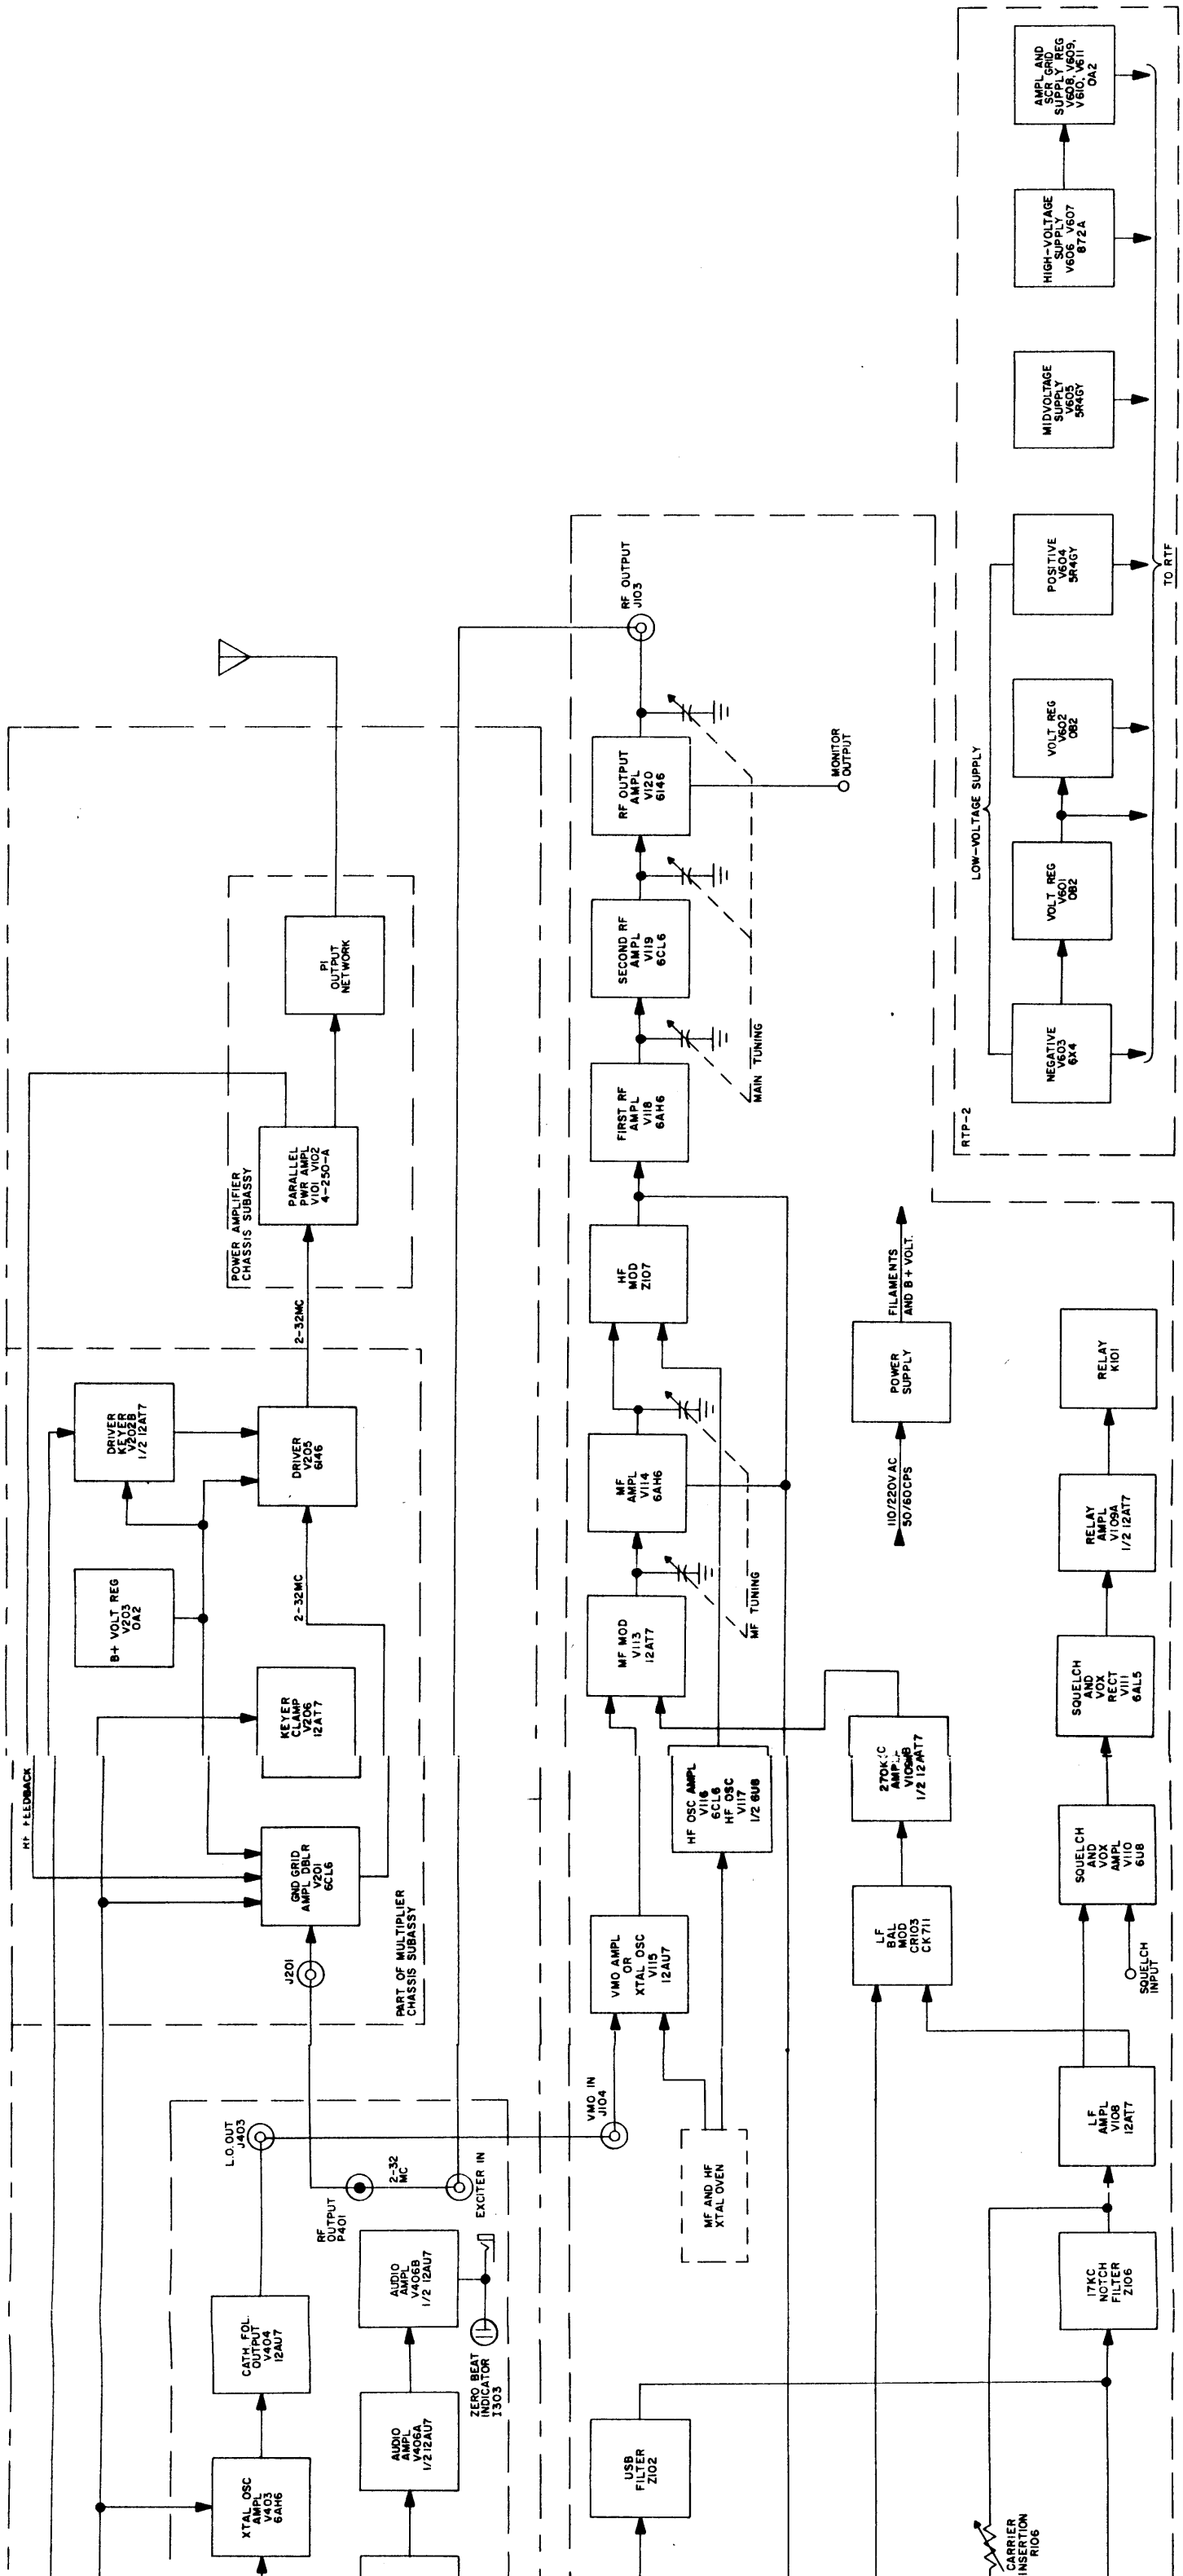
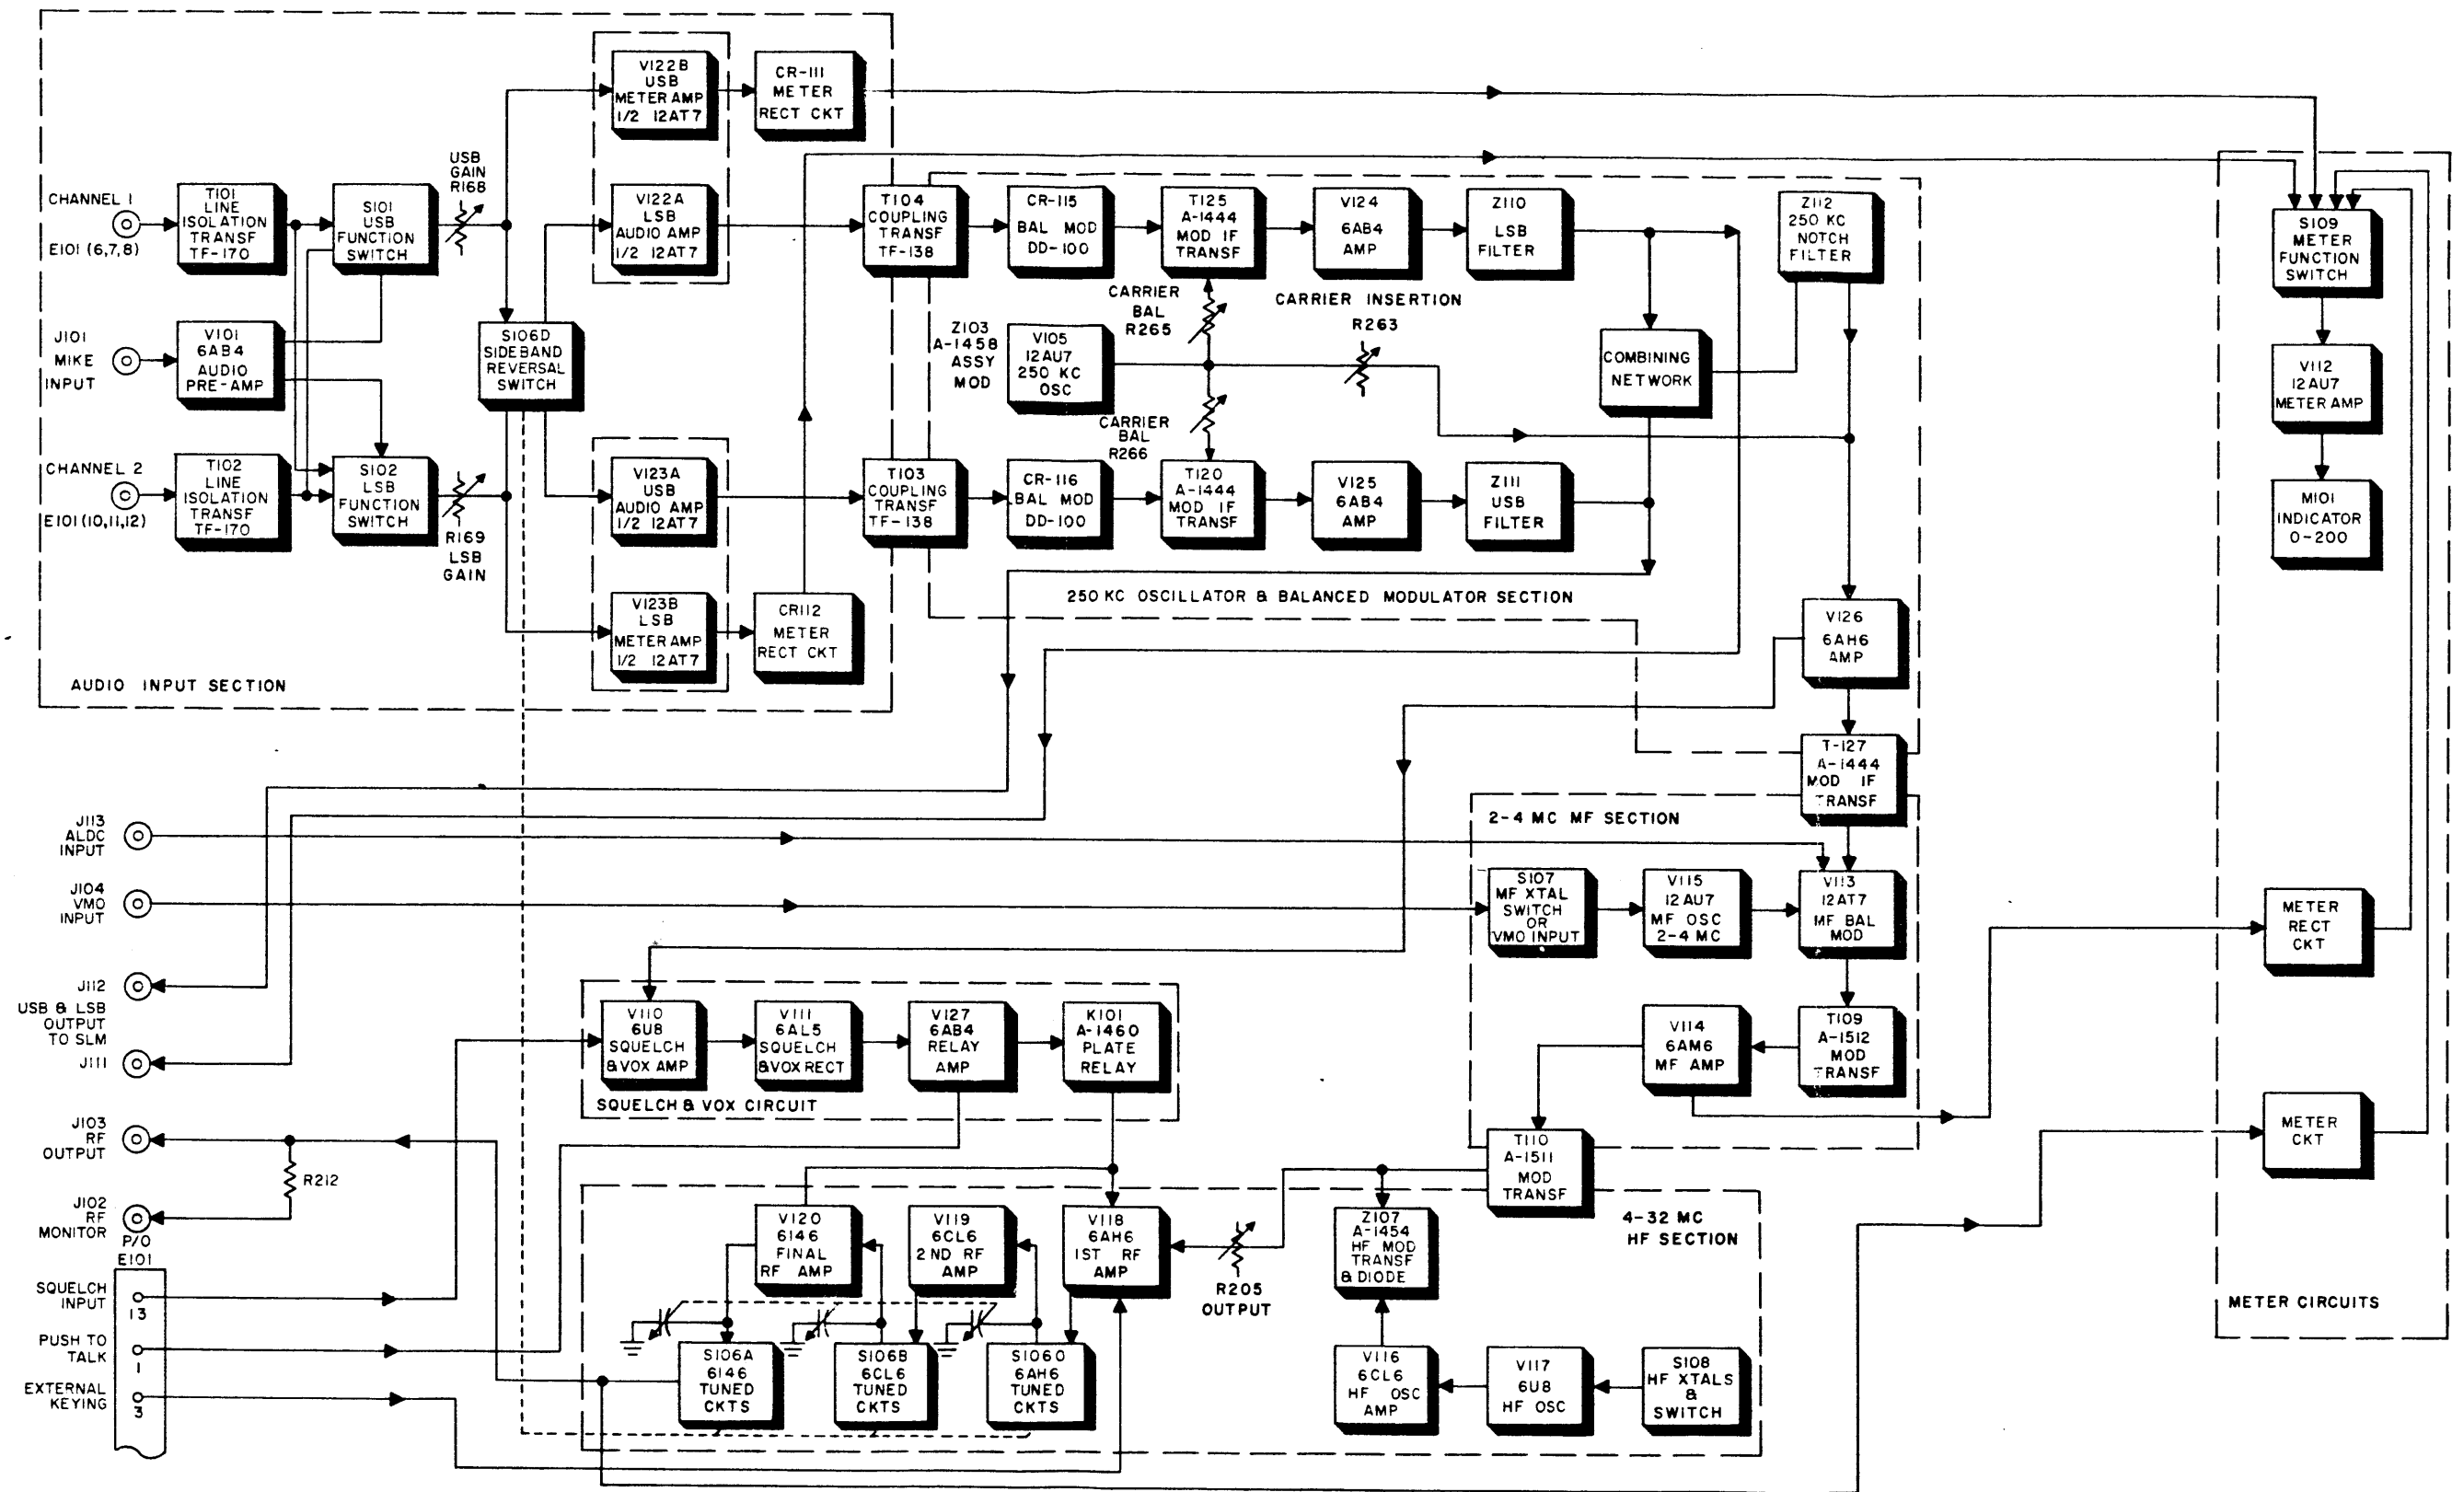

Figure 4-1. Radio Transmitter, Detailed Block Diagram
Figure 4-2. Transmitting Mode Selector Model SBE-3, Detailed Block Diagram
(1) MASTER OSCILLATOR STAGE. - Figure 4-1 is a block diagram of the radio transmitting system. The variable master oscillator is contained in a double oven to promote stability. The stage uses a triode tube V301 in a Colpitts oscillator circuit which is tunable from 2 to 4 mc. The output of the oscillator is coupled through cathode follower V302A, and buffer V402 to amplifier V403. The cathode follower, which is also in the oven, and buffer amplifier provide two stages of isolation for the oscillator from load variations in the following stages. Tuning of the master oscillator is controlled from the front panel by the MASTER OSCILLATOR FREQUENCY control C301 and C302. The frequency to which it is tuned is indicated on the MASTER OSCILLATOR FREQUENCY KCS dial. The master oscillator is disabled when crystal operation is selected.
(2) CRYSTAL OSCILLATOR-AMPLIFIER AND CATHODE FOLLOWER. - The output of buffer amplifier V402 is applied to the input of V403 when the master oscillator is used as the basic frequency source, determined by the front panel OSCILLATOR switch S401. If the switch is in any one of the three crystal positions the master oscillator, cathode follower, and buffer amplifier are disabled by the removal of plate voltage through the switch. Tube V403 is converted into an electron-coupled Pierce oscillator with the selected crystal controlling the frequency. The frequency range of the oscillator is 2 to 4 mc and the crystals may be selected within this range. Adjustment of the crystal oscillator is accomplished by an internal adjustment. The output of V403, when used either as an
Although the two exciter units used in the two models of the transmitter perform the same function, they are not completely identical internally. Figure 4-1 presents the block diagram of the SBE-2 exciter unit used in Radio Transmitter Model GPT-750D-2. Figure 4-2 presents the block diagram of the SBE-3 exciter used in Radio Transmitter Model GPT-750E-2. The explanation in this paragraph pertains to the SBE-2; the explanation for the SBE-3 is given in paragraph 4-2d. The power supply for the exciter is contained on the RTS-2 panel assembly. Circuitwise, this power supply is identical to the separate power supply described in detail in the exciter manuals, although the physical arrangement is different. Basically, the exciter consists of an audio input section, low frequency oscillator and balanced modulator, MF section, HF
The SBE-3 exciter unit is used in Radio Transmitter Model GPT-750E-2, and performs the same function as the SBE-2 in Radio Transmitter Model GPT-750D-2. Figure 4-2 is a block diagram of the SBE-3 exciter. Note that whereas the SBE-2 had a 17-kc and balanced modulator section and a low frequency section operating at 270 kc, the SBE-3 employs a 250-kc oscillator, balanced modulator, and notch filter to obtain the input to the MF section. The remaining sections of the exciter unit operate in the same manner as those described for the SBE-2.